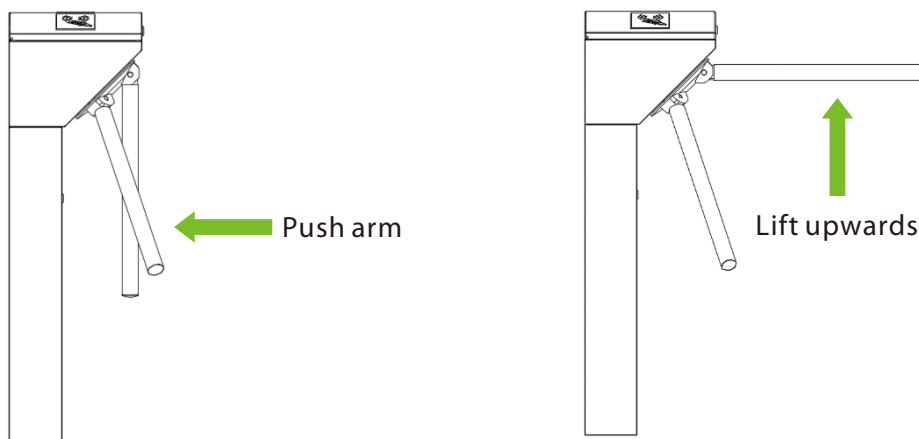

Figure 2-2
4. Lift the arm manually, as shown in Figure 2-2.